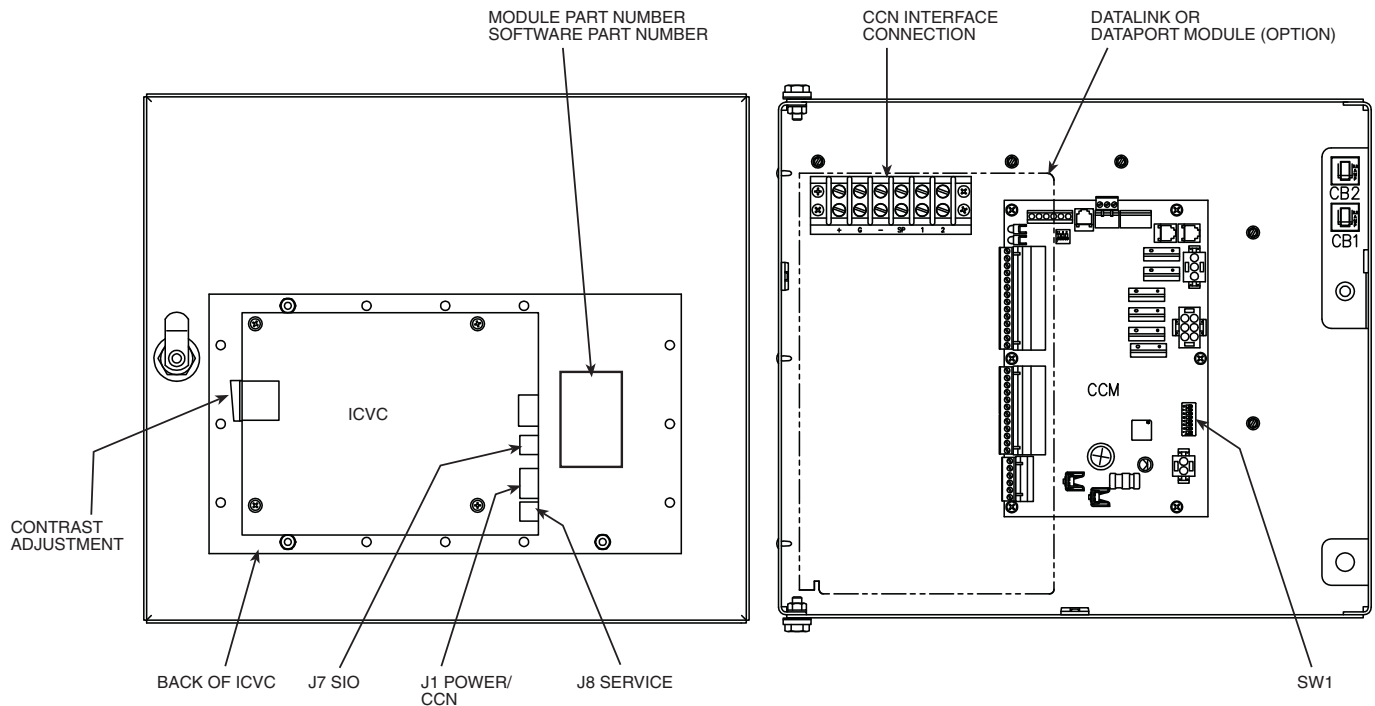

Fig. 48 — Rear of ICVC (International Chiller Visual Controller)
2. If a green LED is on continuously, check the communication wiring. If a green LED is off, check the red LED operation. If the red LED is normal, check the module address switches (SW1). See Fig. 48 and 49. Confirm all switches are in OFF position.